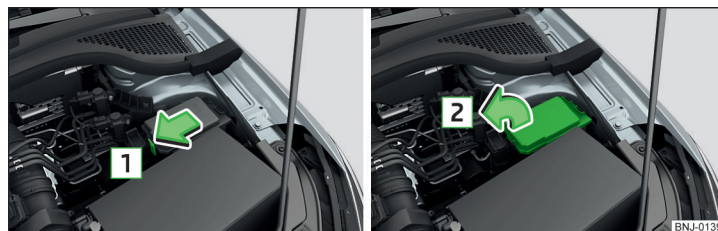

Fig. 293 Remove the cover
- Press together the lock buttons of the cover simultaneously in the direction of arrow  and remove the cover in the direction of arrow  » Fig. 293.